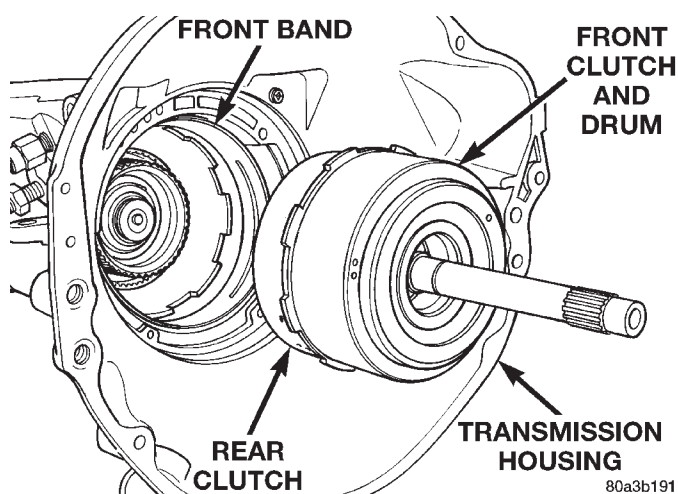

Fig. 104 Installing Front/Rear Clutch
(31) Install front and rear clutch units as assembly (Fig. 104). Align rear clutch with front annulus gear and install assembly in driving shell. **Be sure out-**